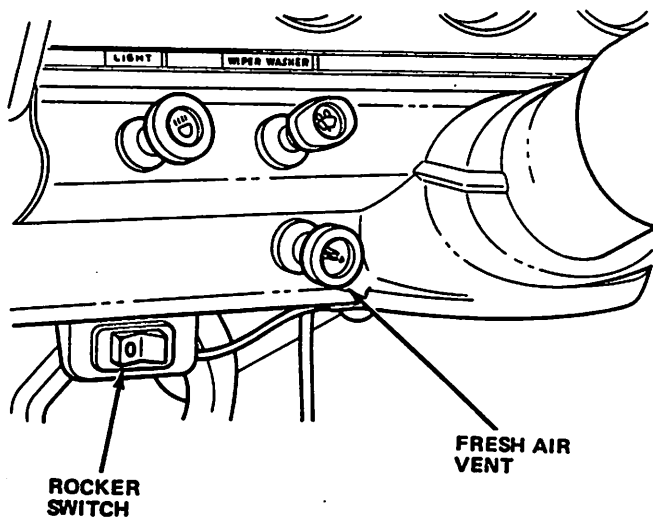

Fig. 3R-15 Switch Location—Typical
(1) Position vehicle on a flat surface, facing and approximately 25 feet from wall.
(2) Remove lamp stone shields (fig. 3R-16).
(3) Loosen lamp attaching hardware. Turn headlamp and fog lamp switches ON (fig. 3R-15), adjust lamp beams as follows: